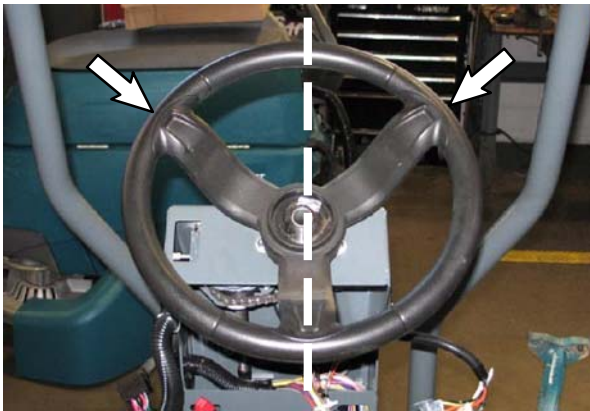

FIG. 13
15. Position the steering wheel on the steering column as shown in Fig. 13.